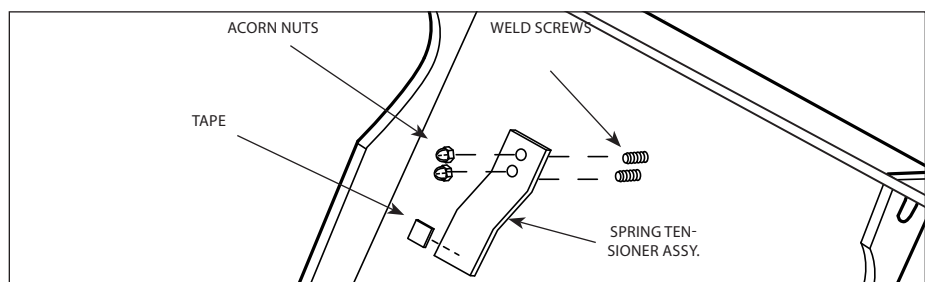

Figure 16. Replacing Spring Tensioner Assy.
1. Remove the acorn nuts (Figure 16).
2. Remove the old Spring Tensioner Assembly (Figure 16).